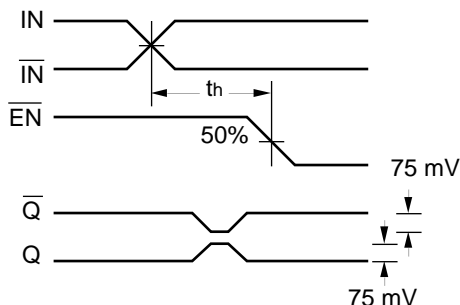

Figure 2. Hold Time
- The hold time is the minimum time that \overline{EN} must remain asserted after a negative going IN or a positive going \overline{IN} to prevent an output response greater than $\pm 75\text{mV}$ to that IN/ \overline{IN} transition (see Figure 2).